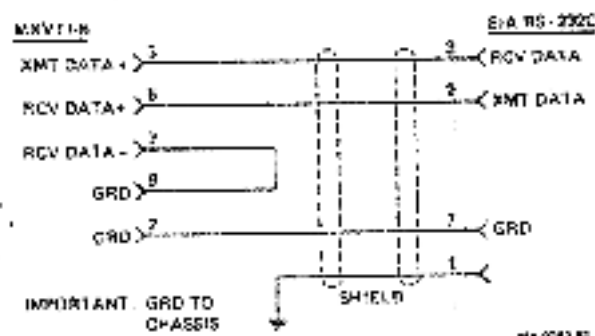

Figure 2-12 BC2CN-05 Null Modem Cable
2. The receivers on the MXV11-B have differential inputs. Therefore, when designing an RS-232C or RS-423 cable, you must tie Receive Data (pin 7 on the 2 x 5 pin AMP connector) to signal ground (pins 2, 5, or 9) in order to maintain proper EIA levels (Figure 2-12).